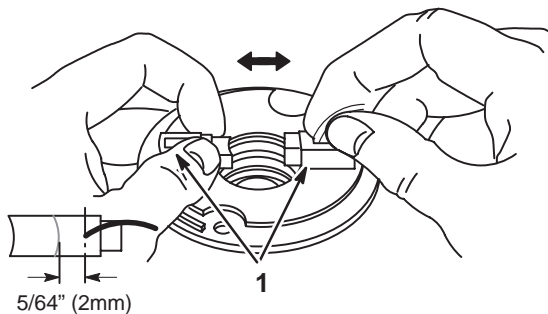

Fig. 99 – Checking Brushes
- If brushes are found to be sticking in their retainers, this must be corrected, or poor starter motor performance will result, Fig. 99.